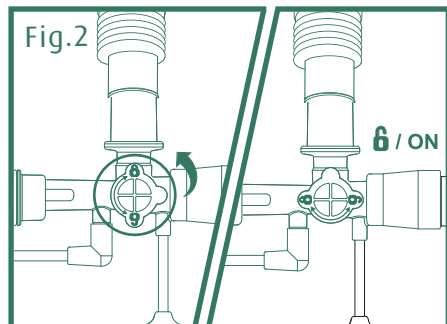

Fig.3
6. **(Fig. 3)** Hold the patient end adaptor with one hand. Carefully advance the catheter down the airway with the other hand.